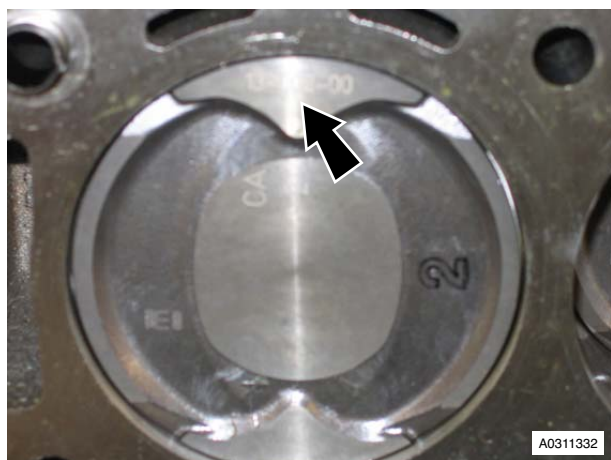

Figure 17
34. Note that piston grade number on crown and thick flange on connecting rod faces to front of engine on LH bank (B) (see Figure 17).